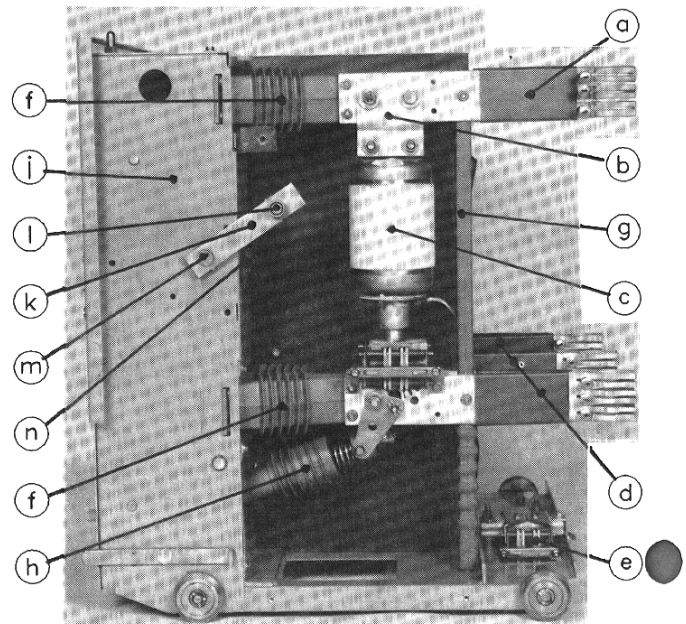

Figure 1. Side view of POWL-VAC Circuit Breaker
A. GENERAL (Figure 1)
When the close latch is released, either under the action of the closing solenoid or the manual close plate, the closing spring pulls the cam shaft around, and the main closing cam moves the main linkage into the closed position. The main linkage rotates the center lever of the drive jack shaft. The jack shaft has 3 downward-pointing pairs of levers to which are attached the operating rods. The operating rods, which are approximately horizontal, are moved towards the vacuum interrupter by the rotation of the jack shaft (Figure 1, Page 2).